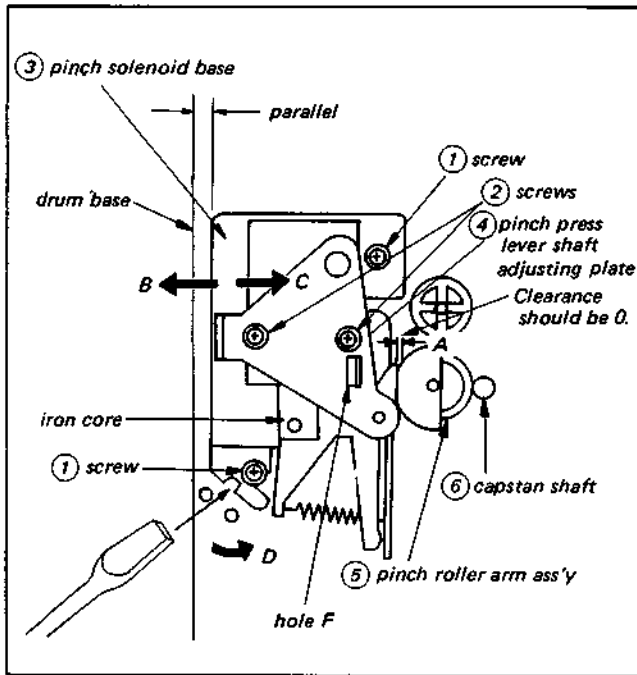

Fig. 3-32. Position adjustment of pinch roller solenoid
3. Loosen the two screws ① fastening the pinch solenoid base ③ shown in Fig. 3-32 and tighten screws ① when the pinch solenoid base ③ becomes parallel to the drum base.
4. Loosen two screws ② shown in Fig. 3-32 by 1/3 to 1/2 turn and move pinch press lever shaft adjusting plate ④ in the direction shown by arrow B.
5. Insert a standard blade-tip screwdriver into hole F when the iron core is pulled slightly and pinch roller arm assembly ⑤ touches capstan shaft ⑥ equally along the complete length of the pinch roller. The pinch roller and the capstan should be parallel. Move the pinch press lever shaft adjusting plate ④ in the direction shown by arrow C and tighten the two screws ② when clearance A becomes 0.